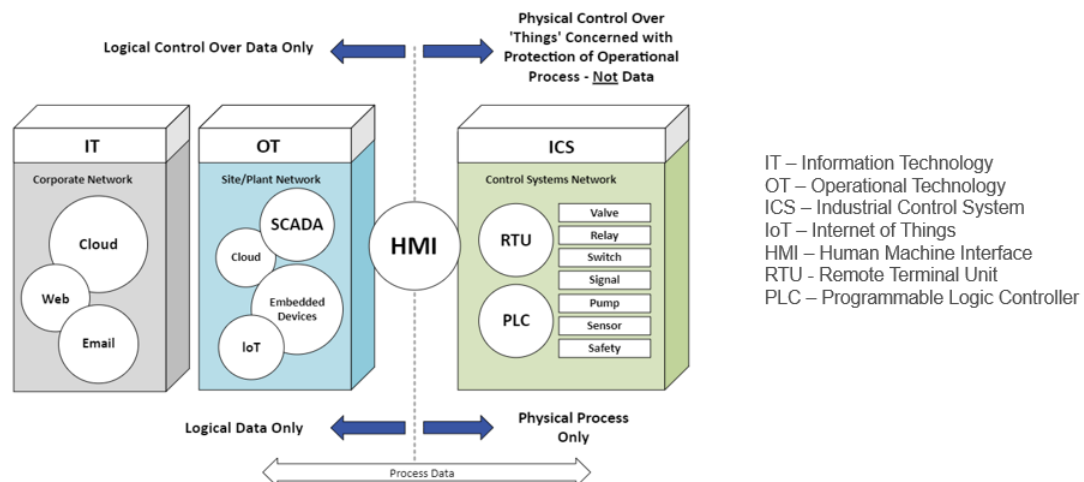

Figure 1. Cybersecurity controls for IT, OT, and ICS.
- What systems and equipment are potentially accessible to cyberattacks (i.e., is there an electronic interface that communicates information in and out)? **Figure 1** shows this relationship between information technology, operational technology, and industrial control systems.